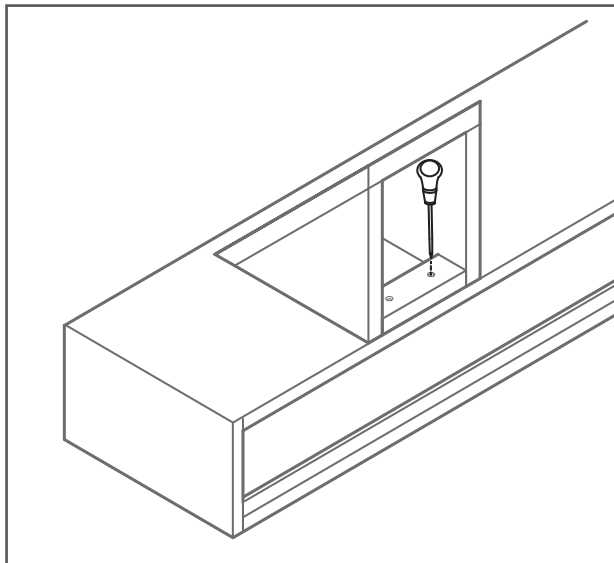

Figure 2
3. Using a pencil or an awl, mark the hole placement for each corbel on the mantel. Set the corbels aside (Figure 2).